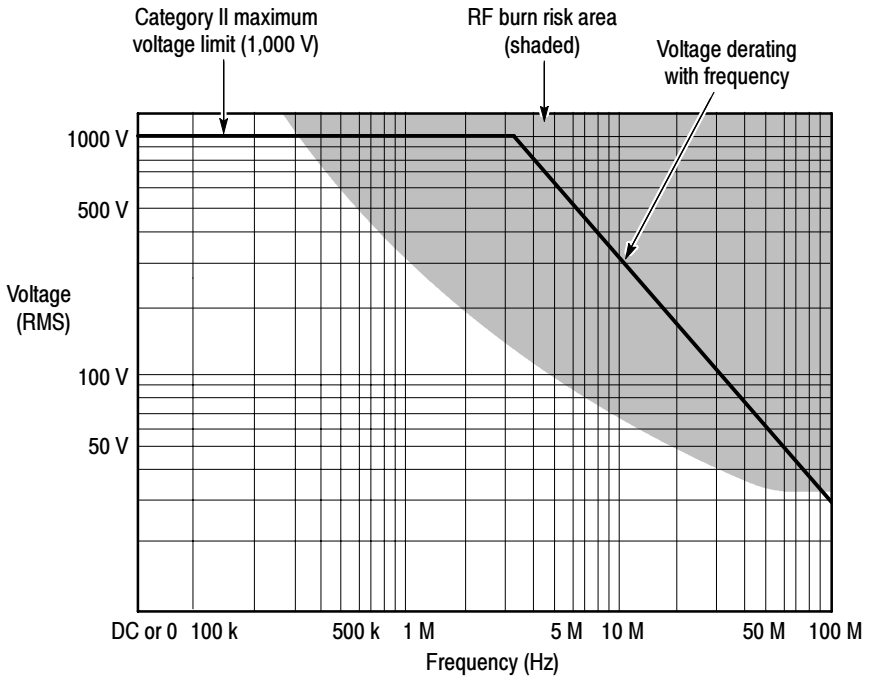

Figure 2: Safety limits (voltage between either input and earth ground)
WARNING. To avoid personal injury, do not handle the probe leads when the leads are connected to a source that is above the voltage and frequency limits given in Figure 2 on page 11. The area above these limits poses a risk of radio frequency (RF) burns.
CAUTION. To avoid damaging the input circuitry of the P5205 probe, do not apply a voltage that is more than 1,000 V_{RMS} CAT II between either input and ground or more than 1,300 V (DC + peak AC) between the two inputs. Above 3 MHz, the voltage limit decreases as frequency increases. See Figure 2 on page 11. The input limit applies to both the 50X and 500X settings.